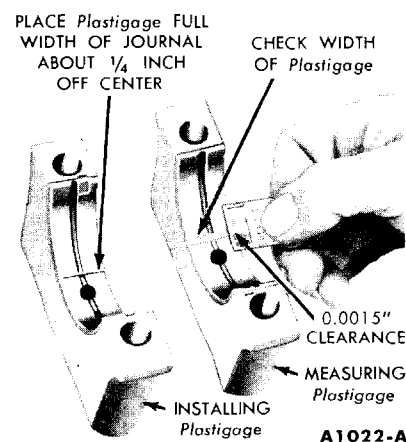

FIG. 25—Installing and Measuring Plastigage—Engine in Chassis
8. Place a piece of Plastigage on the bearing surface the full width of the bearing cap and about 1/4 inch off center (Fig. 25).